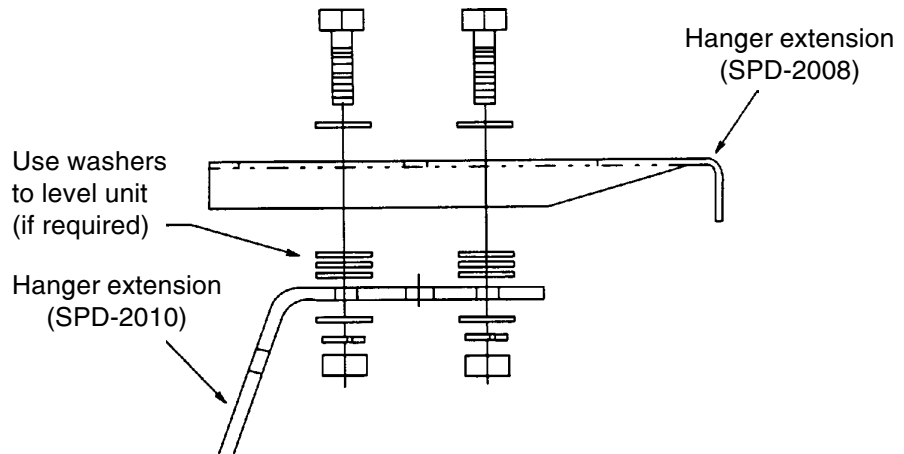

Figure 6: Use washers to level unit.
5. If required, add spacer washers between hanger brackets and hanger extensions to level unit (Figure 6).